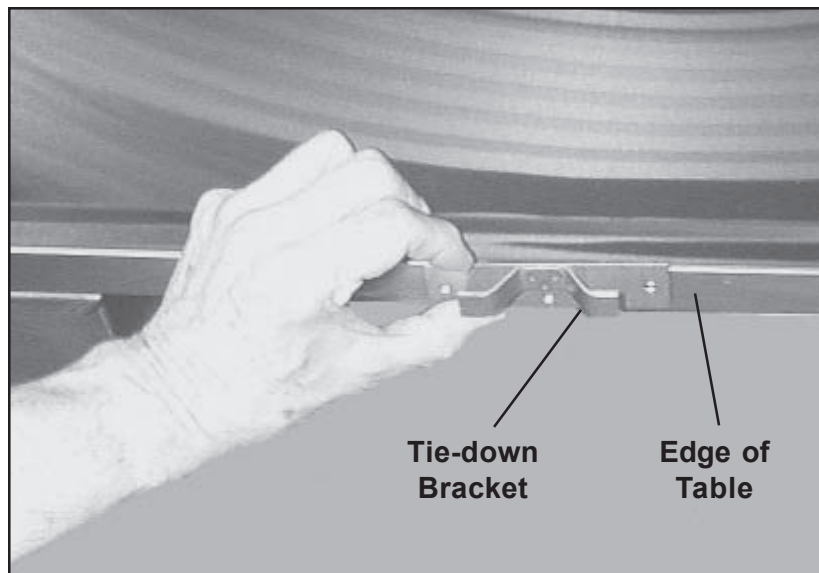

Figure 2. Holding Tie-down Bracket to Table Edge
2. Hold a single tie-down in place (Figure 2), and mark the centers of the three holes on the table edge. The single, center hole should be on the bottom.